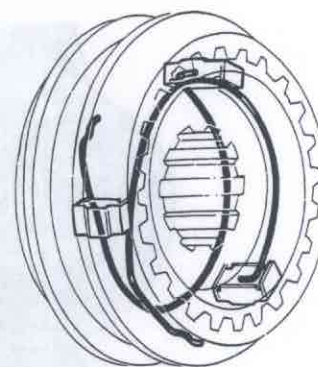

Fig. 43-174. Placing springs
3. Fit the other spring so that it does not come on the same interlock body, Fig. 43-174.